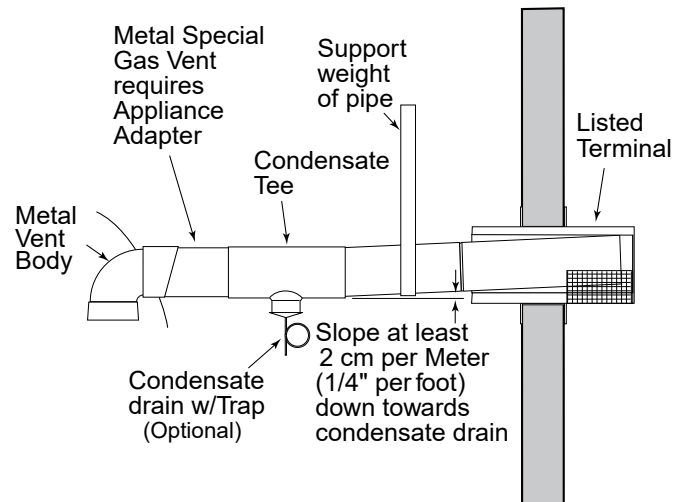

Figure 24.
Allow at least 1 M (3 ft) vertical clearance over vent termination when terminating under an overhang or deck. Avoid corners or alcoves where snow or wind could have an effect. Exhaust may affect shrubbery and some building materials. Keep shrubbery away from termination. To prevent staining or deterioration, sealing or shielding exposed surfaces may be required. See Figure 24.
- Connect wires between the Fireman's Switch terminals on the heater and the relay. Connect wires from the controller or timer to the Fireman's Switch. Controller, timer or relay should be sized to handle 24VAC at 0.5 Amp (because it will be completing the 24VAC control board circuit on the heater as shown in Figure 24). DO NOT apply line voltage to the Fireman's Switch terminals. Use 18 gauge wire with a minimum 1.2 mm (3/64 in.) thick insulation rated for a temperature rise of at least 105° C.